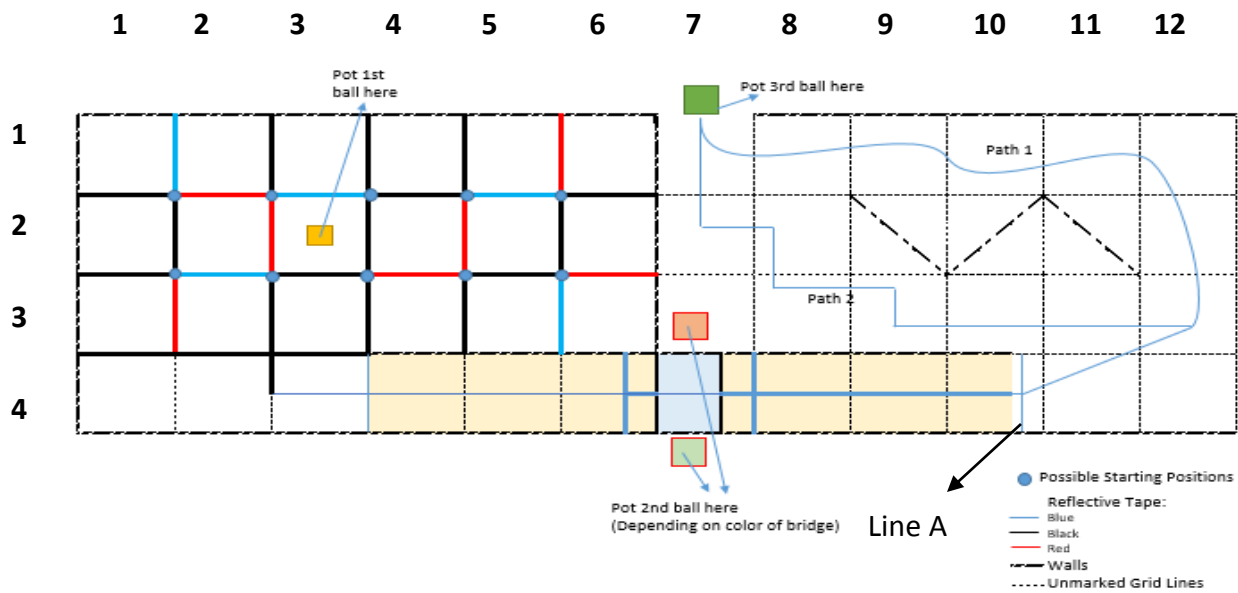

Figure 1 Contest Arena (Top View)
12/09/2017	Page no.6 Figure 1.
- 6.1 The Contest arena shown in *Figure 1 Contest Arena* consists of two sub arenas, both the sides are identical to each other and their colored boxes locations are similar.
- 6.9 The robot can only enter in zone Z2 from Z1 by crossing the bridge. The bridge is as shown in Figure 1. Contest Arena. The robot must cross the bridge.
- 6.10 The starting position of the robot in Z1 will be random. The robot will be placed on any one of the 10 cross section points marked with blue circles in *Figure 1 Contest Arena*. The orientation of the robot will also be random.
- 6.13 The robot may not throw the table tennis ball. It can only drop the ball after Stopping at the grid located at (2,3) for the yellow box as shown in Figure 1. Contest Arena in Z1. The robot or an extension of the robot must be present in the grid unit present at the location (2,3) as shown in Figure 1. Contest Arena in order to pot the sensor in the box.
- 8.1 The robot may not throw the table tennis ball. It can only drop the ball after Stopping at the grid located at (2,3) for the yellow box and the grid location (1,7) for the green box as shown in Figure 1. Contest Arena in Z1 and Z2 respectively. The robot or an extension of the robot must be present in the grid unit present at the location (2,3) as shown in Figure 1. Contest Arena in order to pot the sensor in the box.